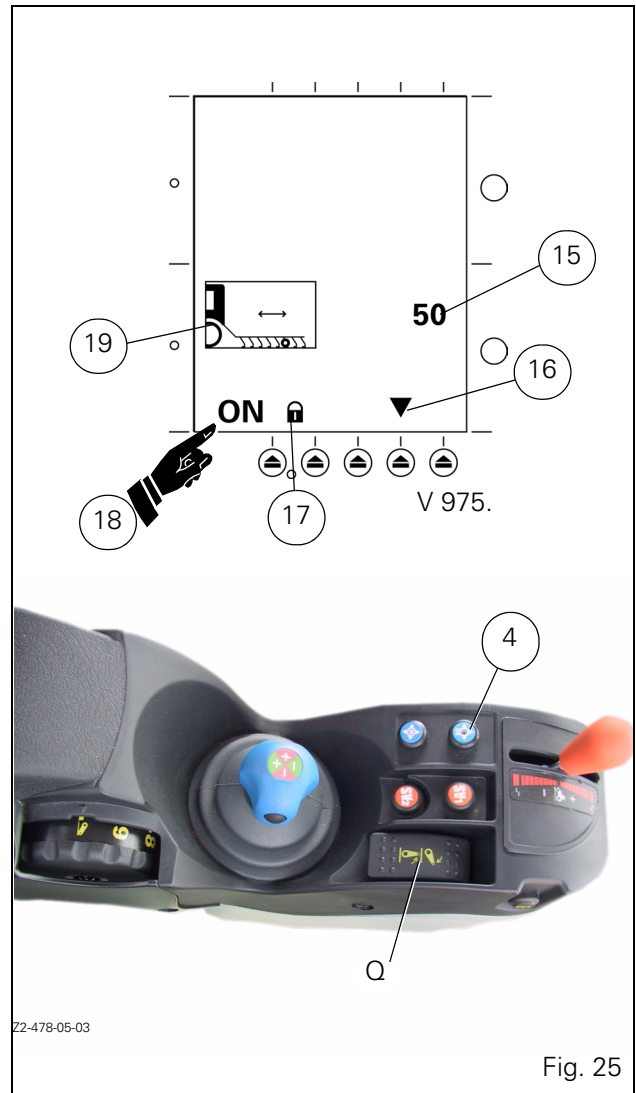

Fig. 25
7.6.4 - Use (Fig. 25)
To use the TIC when data is stored and at each start up, unlock the linkage control by placing selector switch (Q) in lift or lower position, button 4 of the joystick (if fitted) to "ON" position and the Datatronic in the **-ON-** position (ref. 18, Fig. 25).